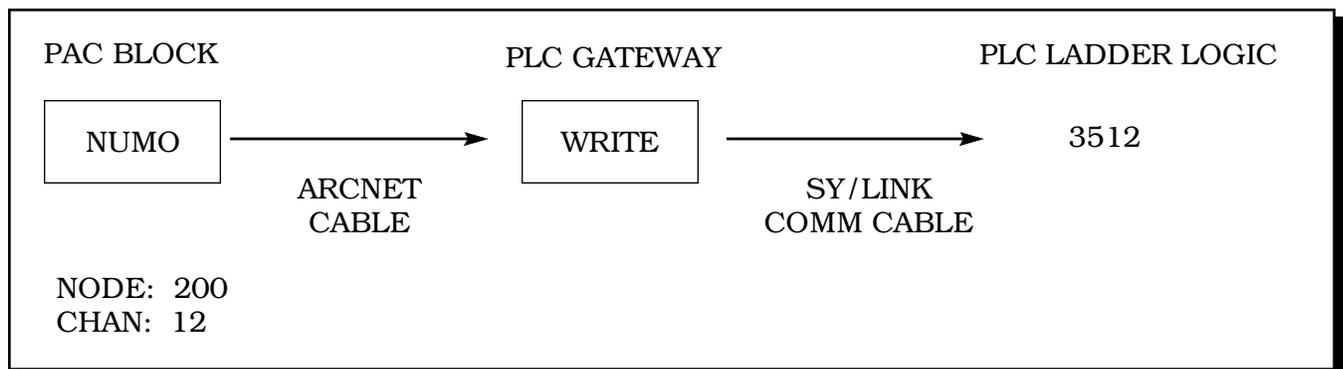

Figure 3. **PAC to PLC Numeric Output**
**Numeric Outputs (NUMO)** from a PAC schematic to a PLC is illustrated in Figure 3.